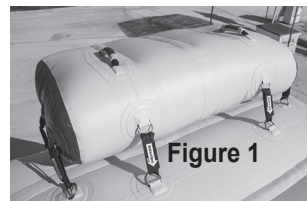

Figure 1
5) If you are attaching the King of the Mountain Slide do so with it deflated. There are 2 sets of Interloc™ straps per side on the upper portion of the slide. See Figures 1 & 2. Make sure straps are attached tightly and securely.